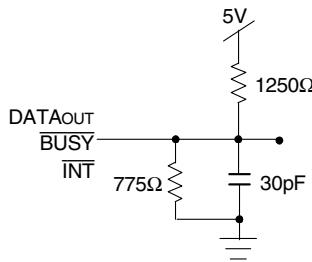

Figure 1. AC Output Test Load
Output Load	Figures 1 and 2
1. Transition is measured 0mV from Low or High impedance voltage with load (Figures 1 and 2).